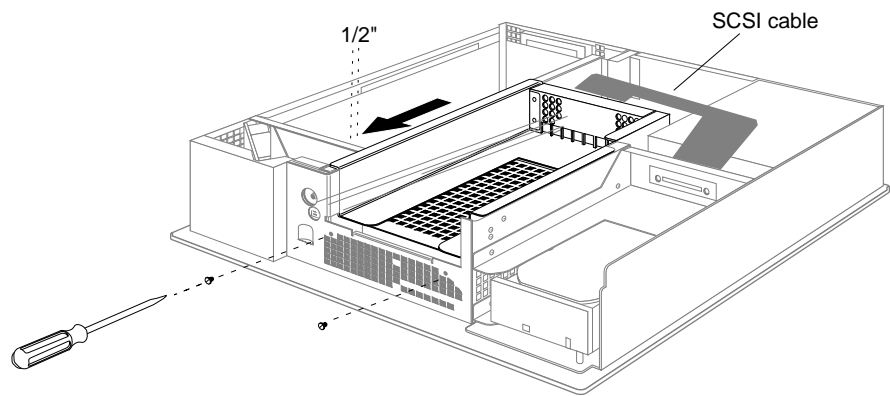

Figure 2-12 Installing the 5-1/4" Drive Tray
- Position the drive and tray so that the tabs on the sides of the tray fit inside the slot openings in the chassis and the open side of the tray faces the front of the workstation, as shown in Figure 2-12.